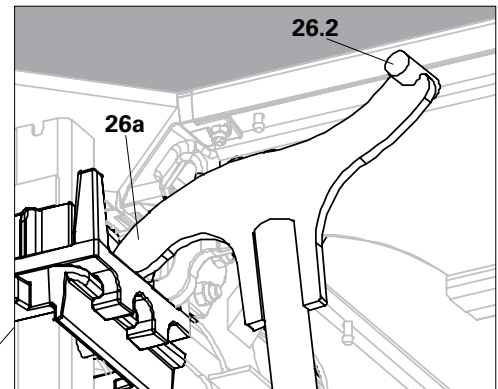

Fig. A11.13a
2. Apply upward force using the handle (**26.3**) of stripping tool AD (**26**) such that pivot rod (**26.2**) is pressed against the slab surface. (Fig. A11.13a)